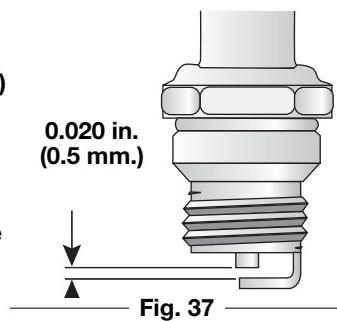

Fig. 37
3. Replace a cracked, fouled or dirty spark plug. Set the air gap at **0.5 mm (0.020 in.)** using a feeler gauge (Fig. 37).